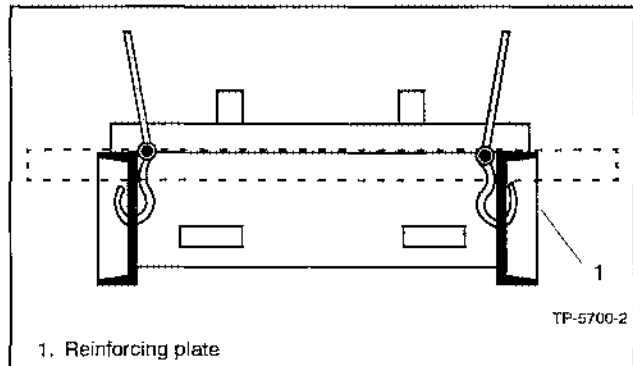

Figure 2-1 Lifting Hook Placement (above 1000 kW)
- Generator sets typically above 1000 kW may have reinforcing plates on the skid. Do not attach lifting hooks to the reinforcing plate. See Figure 2-1.